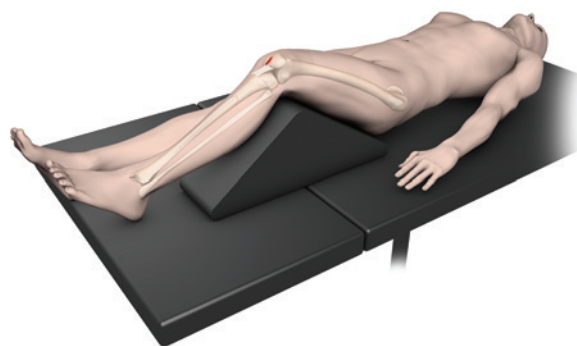

Figure 1
1. Position the patient supine on a radiolucent table with the unaffected limb extended away from the affected limb (Figure 1). Alternatively, a fracture table may be used with a pin inserted through the calcaneus to place the leg in traction.